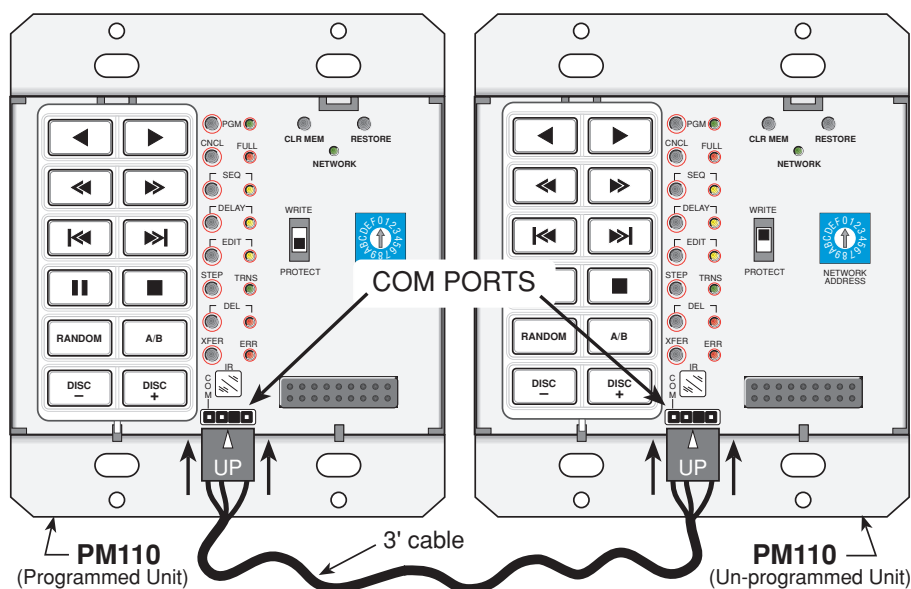

Fig. 29 PM110 to PM110 COM Port Transfer (Cloning)
1. Using the 3' cable supplied with the PM110, simply plug it into the **COM** Port of each unit as shown in Fig. 29.
3. Set the **WRITE/PROTECT** switch to the **WRITE** position on the unprogrammed unit. Fig. 29.